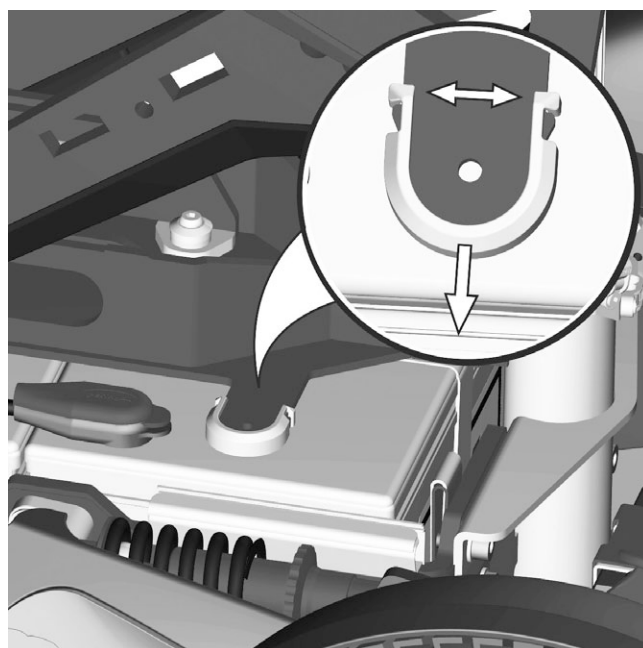

Figure 109. AP Elevator battery pole protection
1. Assemble the battery pole protection. Push the battery pole protection on to the AP Elevator. See fig. 109.